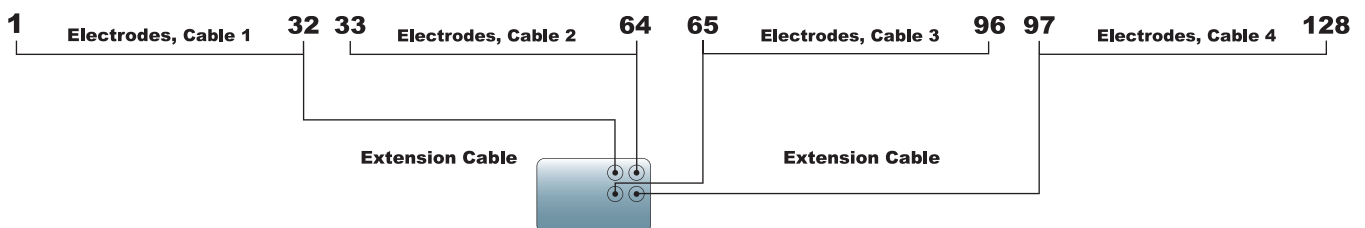

Fig. 7. Electrode connections.
1. Check that the instrument is correctly connected to the current and potential cables. See Fig. 7. When the manual Offset Wenner system is used, the current and potential terminals are connected to the Offset Wenner system switchbox. See separate manual supplied with the Offset Wenner Sounding System.
The relationships of the electrodes to the relays in the control module are shown in Fig. 7. The following description assumes that standard 32-takeout cables are employed in the surveys.
**A. A single IMAGER cable.** If a single IMAGER cable is being used it should be connected to the socket marked **CABLE 1**. In this case relays 1 – 32 will correspond to the electrodes 1 – 32 numbered from the connector (See Fig. 7. A). This is true for 32 and 62 channel systems.
**B. Two IMAGER cables.** When two cables are connected to the control instrument, the electrodes will normally be numbered from one end of the line of 64 electrodes to the other end. In this case relay 32 will correspond to electrode 1 and relay 1 to electrode 32. On the second cable, relay 33 will correspond to electrode 33 and so on to relay 64 which will correspond to electrode 64. Full details are shown in Fig. 7 B. This is true for 32 and 62 channel systems.
**C. Two IMAGER cables with Tigre 128.** See Fig. 7 C for cable deployment method using an extension cable.
**D. Four IMAGER cables with Tigre 128.** See Fig. 7 D